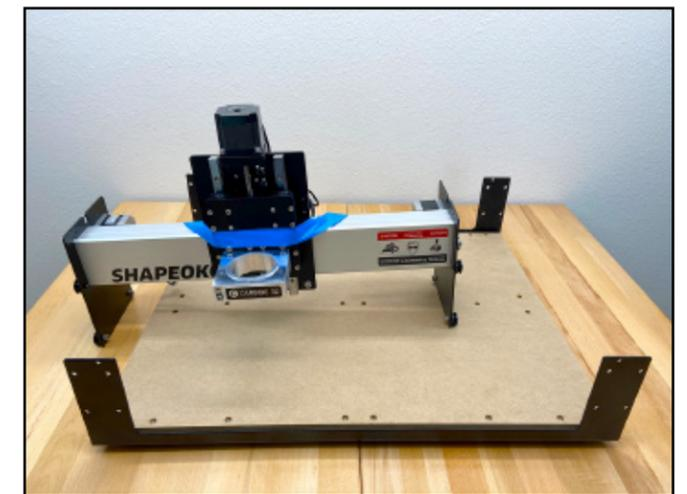

Figure 4-4
1. Place the X-rail/carriage assembly across the middle of the baseframe, shifted slightly to the left, with the Y1-carriage on the tabletop and the Y2-carriage on the baseplate. See **Figure 4-4**.